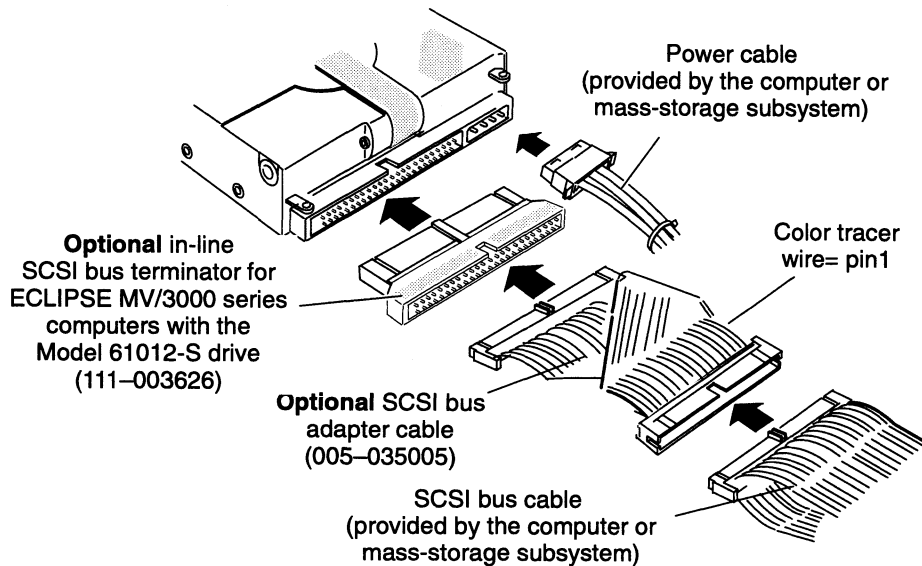

Figure 9 Connecting the SCSI bus cable and power cable to the back of the Model 61012-S or 61014-S drive (Version A)
- ▶ If you are installing the Model 61012-S drive in an ECLIPSE MV/3000 series computer and the drive will be disk 0, connect the in-line terminator plug, 111-003626 (Figure 9) into the SCSI bus connector on the drive. (Note the ECLIPSE MV/3000 Series computers do not support the Model 61014-S drive.)
- ▶ Connect the SCSI bus cable provided by the computer or mass-storage subsystem into the SCSI bus connector (or optional in-line terminator plug) on the back of the disk drive (Figure 9).
9. If you cannot connect the SCSI bus cable to the drive without twisting it, connect an optional adapter cable (005-035005) between the SCSI bus cable and the disk drive (Figure 9).
- ▶ If you are installing a drive model with a -S suffix, refer to Figure 9.